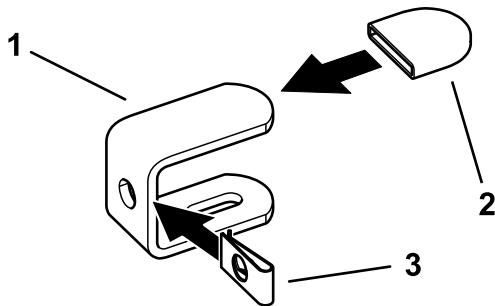

Figure 1
2. Install a cap and speed nut on each mounting bracket (Figure 1).